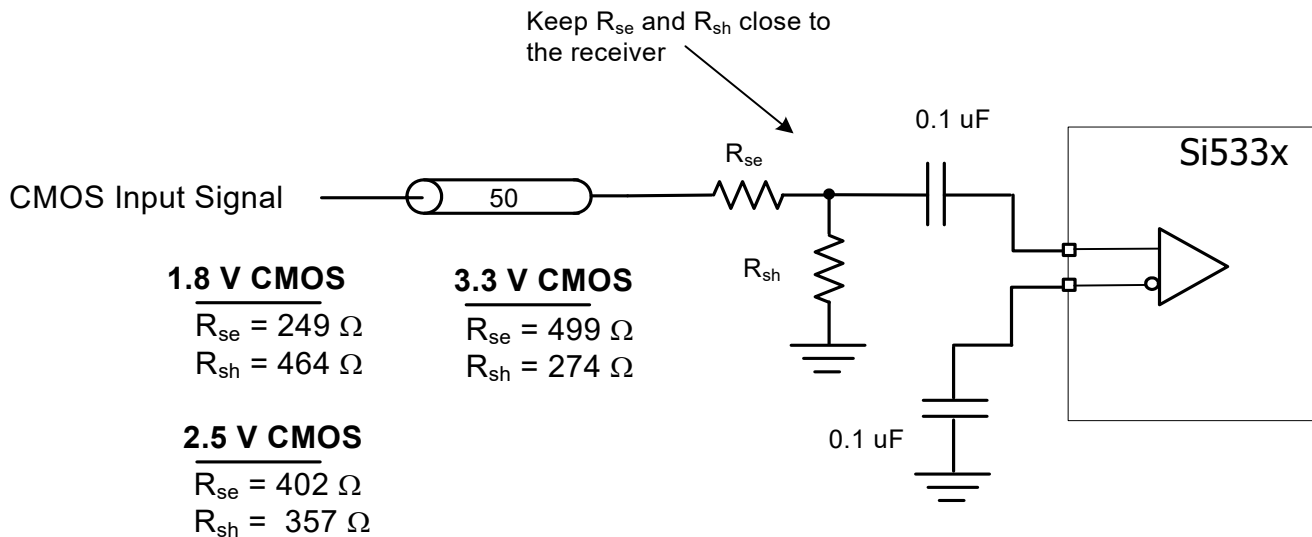

Figure 10. Applying a CMOS Level Signal to the Differential Inputs
Note that the maximum voltage level on the differential input pins on all Si533x must not exceed 1.3 V. To apply a CMOS signal to any of these pins, use the circuit shown in Figure 10. For a CMOS signal applied to these differential inputs, the maximum recommended frequency is 200 MHz.
- Updated Figure 10 on page 8.